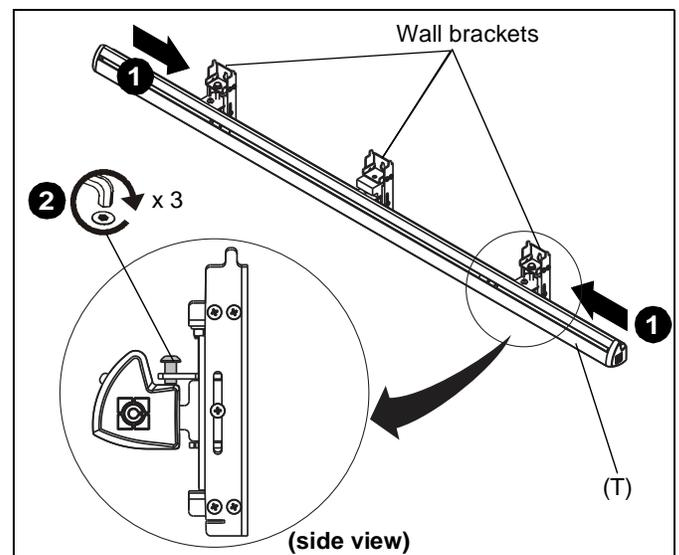

Figure 3
**NOTE:** The center wall bracket must remain in the center of the wall assembly (T).
1. Slide outside wall brackets along wall assembly (T), as required, for the wall substrate. (See Figure 3)
2. Tighten button head cap screw on each wall bracket to secure wall brackets to wall assembly. (See Figure 3)